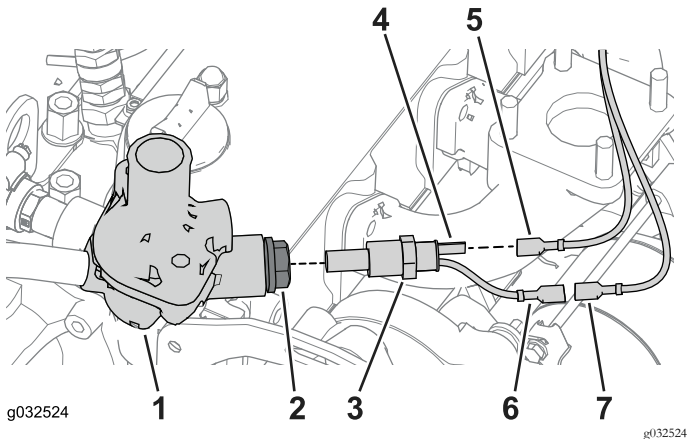

Figure 34
1. Locate the thermostat housing on the engine block and remove the engine-port plug (Figure 34).
5. Locate the yellow wire you disconnected in a previous step and connect it to the engine-hot connector (Figure 34).
6. Locate the orange wire that is cable tied to the yellow wire and connect it to the engine-warm connector (Figure 34).